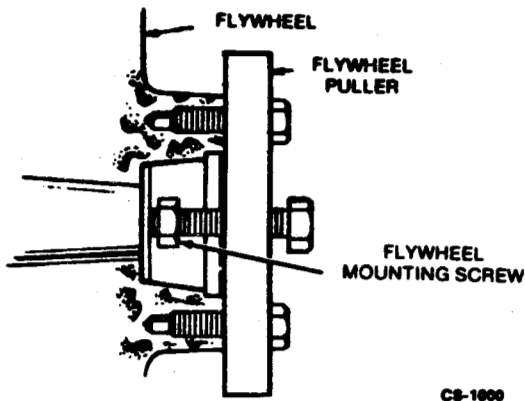

FIGURE 8. BLOWER WHEEL PULLER
2. Install a puller bar on the flywheel (Figure 8).